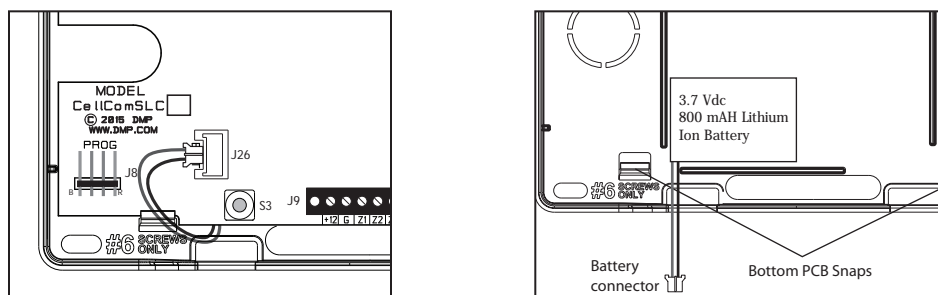

Figure 2: Replacement System Battery Location
5. Place the new battery into the housing base with the battery wires directed toward the bottom left corner. See Figure 2.